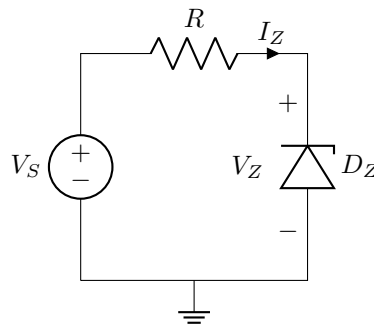

Figure 3: Zener diode characteristic measurement circuit. The Zener diode is reverse-biased with the cathode toward the positive supply.
Next to investigate is the voltage regulation properties of a Zener diode operating in the breakdown region. Construct the circuit shown in Figure 3 using a Zener diode and a $100\ \Omega$ resistor. Pay careful attention to the polarity: for the Zener to operate in breakdown, its cathode (the marked end) must be connected toward the positive terminal of the supply through the resistor, and its anode must be connected to ground. This is the reverse of normal diode operation.
4. For the Zener circuit in Figure 3, assume $V_S = 10$ V, $R = 100$ Ω , and $V_Z = 5.1$ V (and assume this voltage remains constant in breakdown). Calculate (a) the current through the Zener diode, (b) the power dissipated by the Zener diode, and (c) determine whether this exceeds a 1 W power rating. Show all work.
5. Explain in your own words the difference between static (DC) resistance and dynamic (small-signal) resistance of a diode. Write the mathematical expression for calculating each type of resistance.